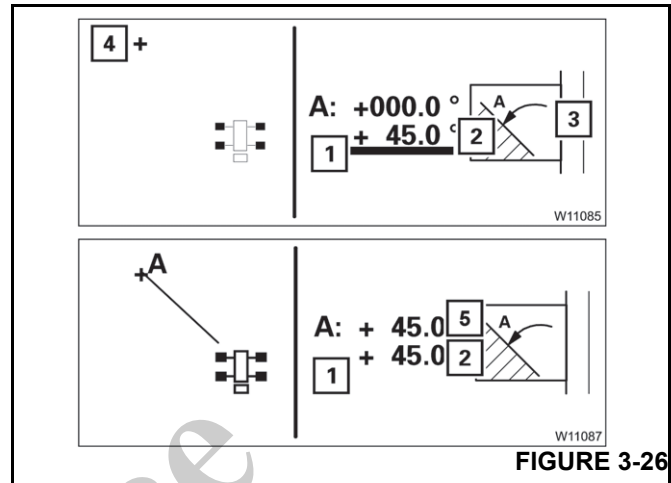

FIGURE 3-26
1. Press the button (3) (Figure 3-26) once.
2. The bar (1) turns red, input mode on. To cancel input press the **Esc** button.
3. Swing the main boom (4) to the shutdown point from the right, e.g. value (2) 45°.
6. The value (2) is accepted as the limit value (5).
7. The bar (1) goes out.